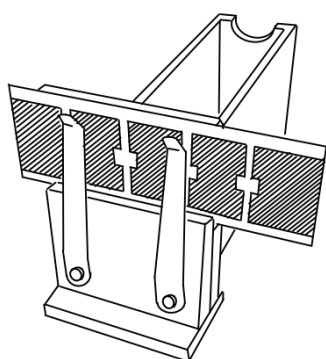

Fig. 6 The slit and holder
1. Set the slit into the slit holder of the completed equipment as shown on Fig. 6. and put the laser pointer on its base (Fig. 7). Then, adjust position of the beam axis and the slit by turning on the laser pointer and adjusting beam emitted by sliding the slit on the holder as needed.